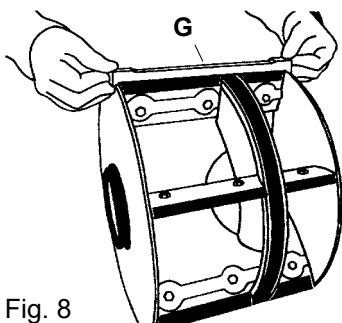

Fig. 8
2. Mount the new blades on the rotor. The blades are mounted in long holes for height adjustment, see figure 8. Do not tighten the screws in such a way that the blades are deformed (tightening torque 8 Nm). It is recommended to use the shown special tool (G) to secure that the blades are mounted in the right height. The tool can be provided by Kongskilde, sales no. 121 000 696. The diameter of the rotor with blades is: $\varnothing 395$ mm. Only use original Kongskilde rubber blades.